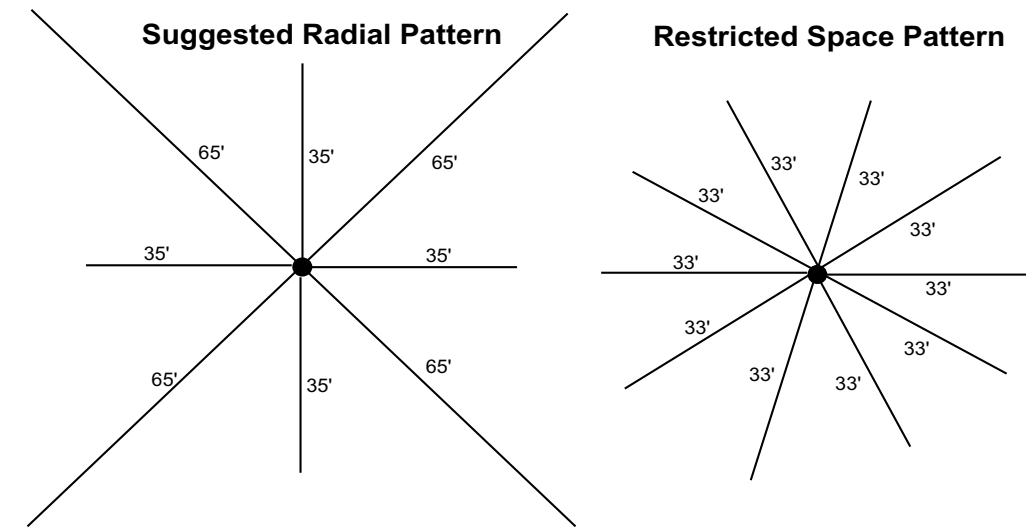

Figure-12B: Recommended radial-wire layout
- [] Unroll and install each, creating the star pattern shown in Figure-12B.